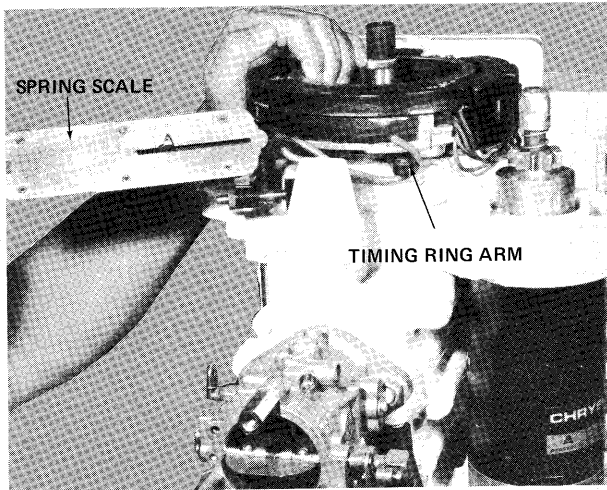

Figure 16 - Checking Timing Ring Friction
- D. Check friction of timing ring by rotating it using a spring scale attached to outside hole of pivot arm (with towershaft disconnected). Reading should be 3 to 5 lbs. Readjust stop nuts evenly, but no more than 1/8 turn to get proper friction. See figure 16.